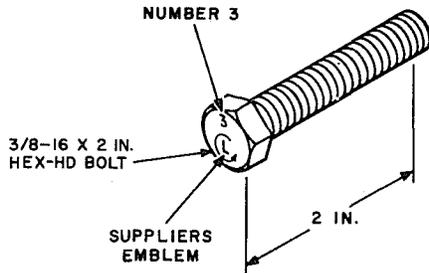

Fig. 20—Approved Splice Case Bolt
3.31 *Check the bolts furnished with the splice case. If the bolts have the numeral 3 on the heads and are 2 inches long, they are satisfactory (Fig. 20). No other bolts should be used.*